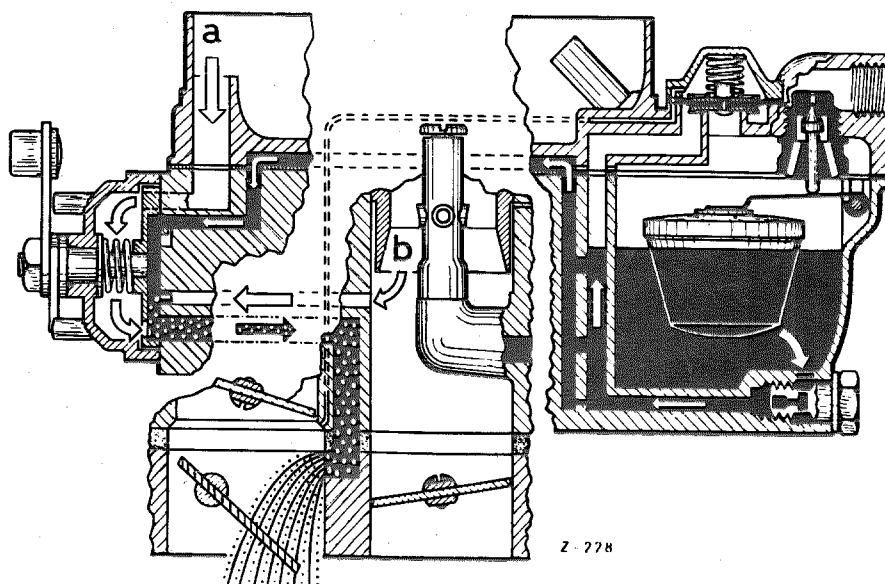

Fig. 07 — 0/8
The partial vacuum obtaining in the suction tube exerts an influence on the starter system (Fig. 07 — 0/7), via the gaps at the side of the vacuum valve and the start mixture canal (14). As a result of the partial vacuum, fuel is drawn up from the float chamber via the starter fuel jet Gs (12) into the canal (4). Air enters through the notch (8) in the carburetor cover which connects up with the float chamber. Thus there is already a kind of pre-mixture present in the canal (4) leading to the starter rotary slide valve. Furthermore, the notch is designed above all to prevent fuel from being drawn up by the siphon effect when the starter is not switched on and the starter rotary slide valve is not quite gas-tight. The pre-mixture enters the chamber (19) of the starter rotary slide valve through the graded bore (2). At the same time, air is drawn from the suction canal of Stage 1 into the chamber (18) of the rotary slide valve via the canal (5) (with the graded bore [16]). This air combines with the pre-mixture in the mixing chamber (20). From the mixing chamber (20), this pre-mixture, with air added, passes into the cavity (21). There is a further supply of air which comes from the air canal (3) via the graded bore (15) of this cavity which acts as a starter air jet. The pre-mixture, which with this additional air has now become a rich starting mixture, passes via the orifice (23) into the starting mixture canal (14). The fuel flow for this first phase — when starting the engine — is shown in Fig. 07 — 0/8.